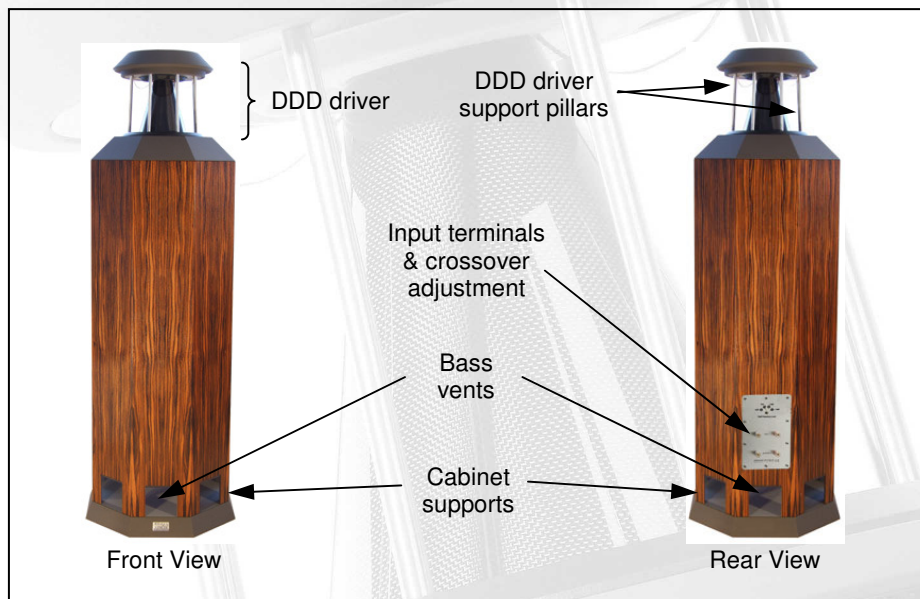

Figure 4. Principle Features of the Borderland Mk IV
Do not lift them by the DDD driver support pillars (figure 4) as this may damage the driver.
Do not lift them by the cabinet supports (figure 4) as this may damage the cabinet.
3. Lift the loudspeaker out of the shipping carton by holding it around the cabinet. Do not lift it by the DDD driver support pillars or cabinet supports – figure 4.